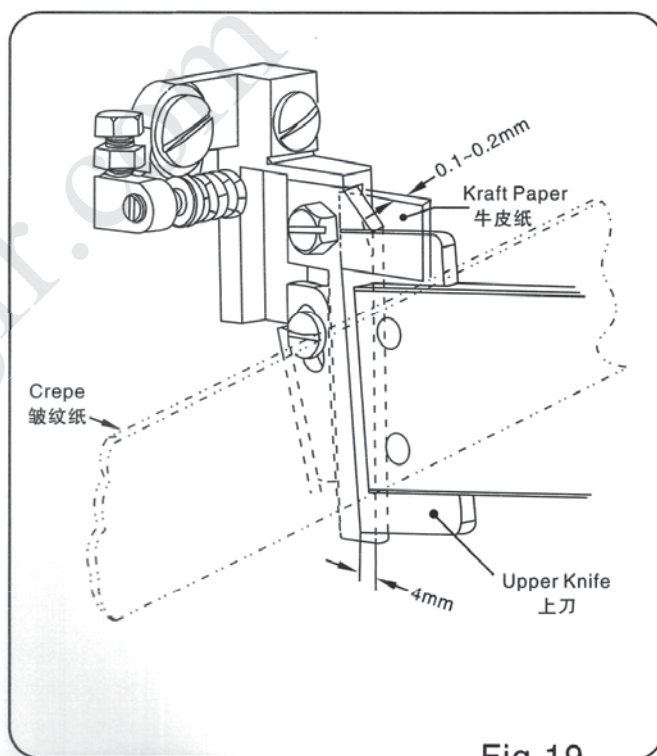

Fig.19
- Move the upper blade down to make it closed to the lower blade, fit clearance of the blade back is 0.1~0.2 MM (Fig.19), between upper blade and lower blade should be able to insert or pull out a kraft paper smoothly.
- After the adjustment by steps a), b), cut a crepe tape or thread for test. If the front end of the cutter cuts but the rear end does not, there is a gap on the rear side. In this case, loosen the nut b and loosen the screw ⑥ by 1/8 turn, and cut the thread again for test. If it still does not cut, loosen the screw ⑥ by another 1/8 turn and repeat this adjustment and test cut until the thread can be cut, and then retighten the nut b screw ③. If the rear end of cutter cuts but the front end does not cut, the adjustment by step a) is insufficient. Then make readjustment of the rear side so that the gap between both the blades becomes 0.1 to 0.2mm. Here, adjust the upper and lower blades so that they are in contact with each other on the front side. If the lower blade tends to turn away without cutting, increase the pressure of the spring by turning the screw ⑥ clockwise. (Fig.19)
- Adjust the overlapped depth of the upper and lower blades by changing the length of air cylinder rod end so that the distance between the upper face of the lower blade and the rear side of the upper blade becomes 4mm, as shown in (Fig.19).